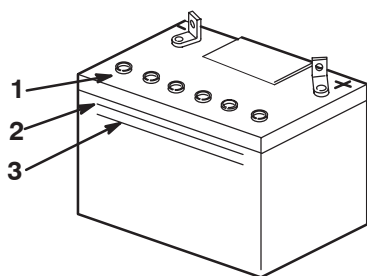

Figure 63
2. Look at the side of the battery. The electrolyte must be up to the **upper** line (Fig. 63). Do not allow the electrolyte to get below the **lower** line (Fig. 63).
3. Remove the vent caps from the battery (Fig. 63).
4. Slowly pour distilled water into each battery cell until the level is up to the **upper** line (Fig. 63) on the battery case.
5. Wait five to ten minutes after filling the battery cells. Add distilled water, if necessary, until the electrolyte level is up to the **upper** line (Fig. 63) on the battery case.